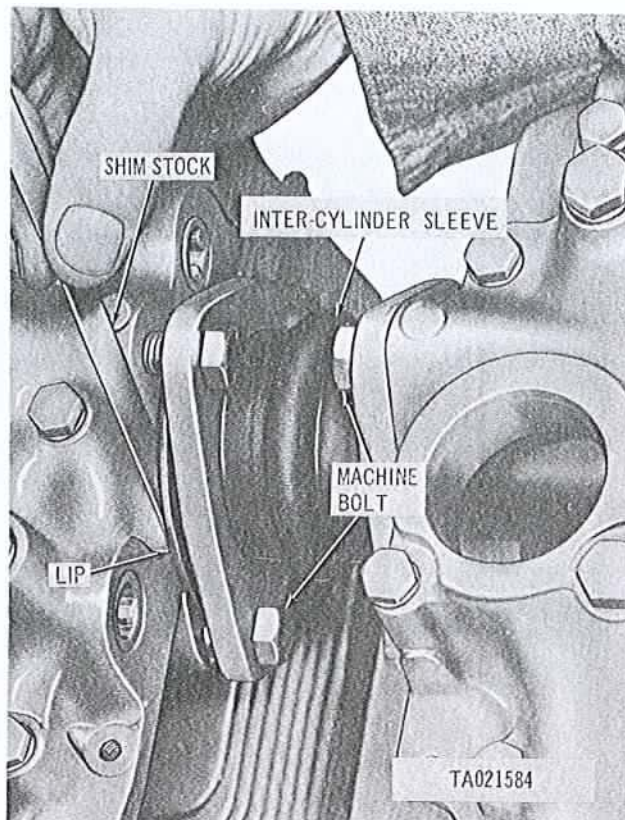

Figure 3-333. Installing camshaft intercylinder hose flange bolts.
n. Loosely install all camshaft preformed hose flange bolts (fig. 3-333). Slide a piece of shim stock between the lip of the preformed intercylinder hose and the mating faces of the valve rocker arm cover and cylinder to remove any possible creases. Tighten the flange bolts.